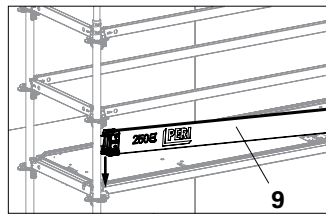

Fig. B1.06a
5. Attach Toeboard UPF (9) on the outside to the Standards. (Fig. B1.06a)